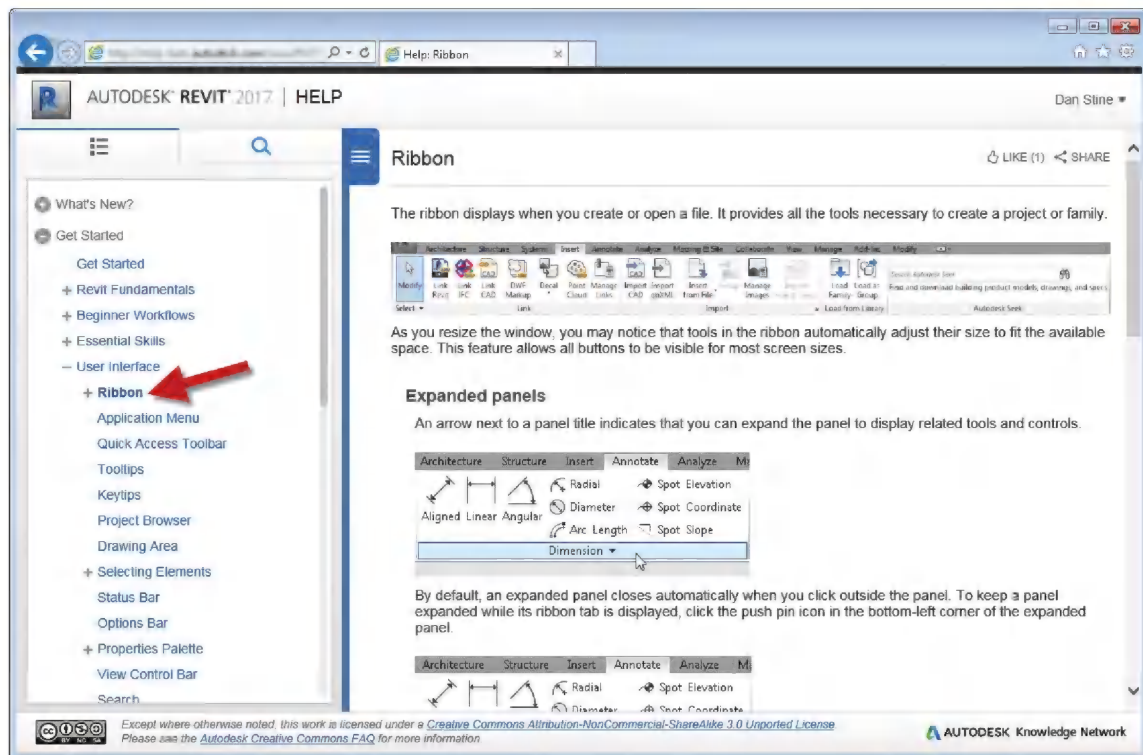

FIGURE 1-6.2 Help window; Ribbon overview
3. Now, click the **plus symbol** next to **User Interface** (Figure 1-6.2).